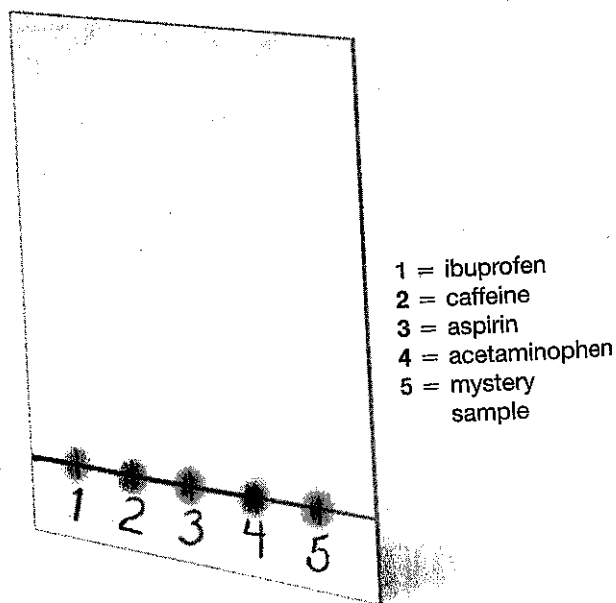

FIGURE 12.7 Example TLC plate with five analgesic samples spotted in individual lanes.
- 3 On each TLC plate, use a pencil to label five lanes in which you will spot your five samples (four analgesics and one mystery sample) as illustrated in Figure 12.7. Sample lanes should not be too close to the edge of the TLC plate and should be separated from each other by approximately 0.5 cm.